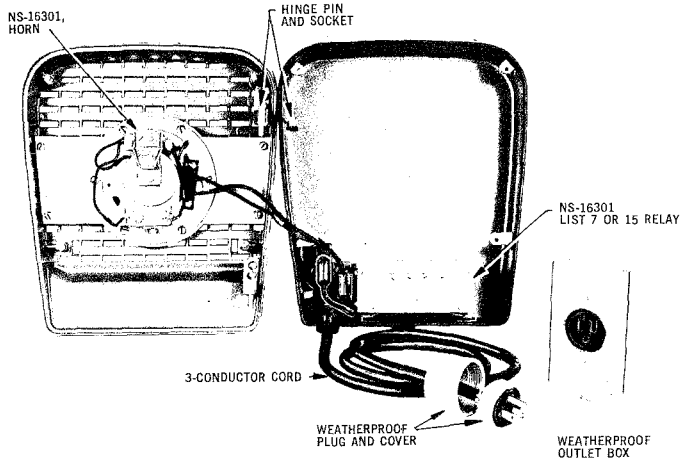

Fig. 6 - Complete Assembly, Outdoor Dual Potential, Horn
**3.02** The armature on relays associated with auxiliary signals restores to normal (open contacts) by gravity. Always mount signal on a vertical surface. The relays must be in the horizontal position as shown in Fig. 6.
3.11 Each back box is equipped with two sockets which engage with two pins of each front cover to form a hinge (see Fig. 6). The signal fastens to the back box with four machine screws which are furnished with the gridded cover. Be sure that the gasket on the back box is in place. For outdoor use, the rain hood mounts on the cover with three machine screws.